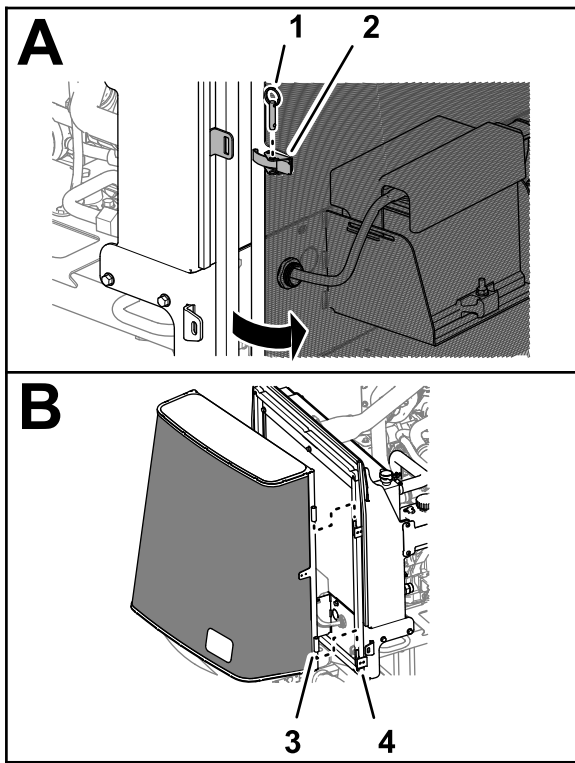

Figure 2
4. Remove the ball pin that secures the screen latch (Figure 2).
5. Unlatch the screen (Figure 2).
6. Lift the screen from the pivot pins of the radiator frame (Figure 2).